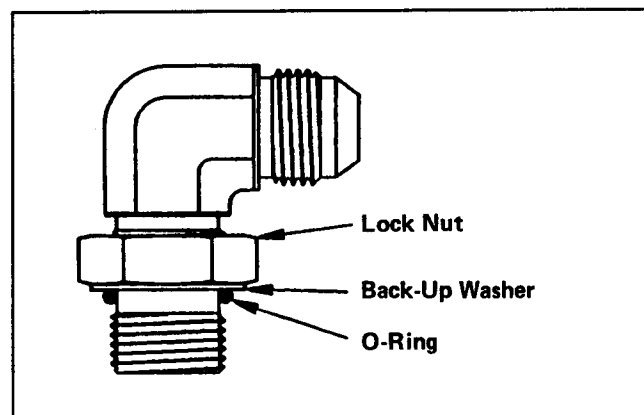

Figure 23
1. Make sure both threads and sealing surfaces are free of burrs, nicks, scratches, or any foreign material (Fig. 23).